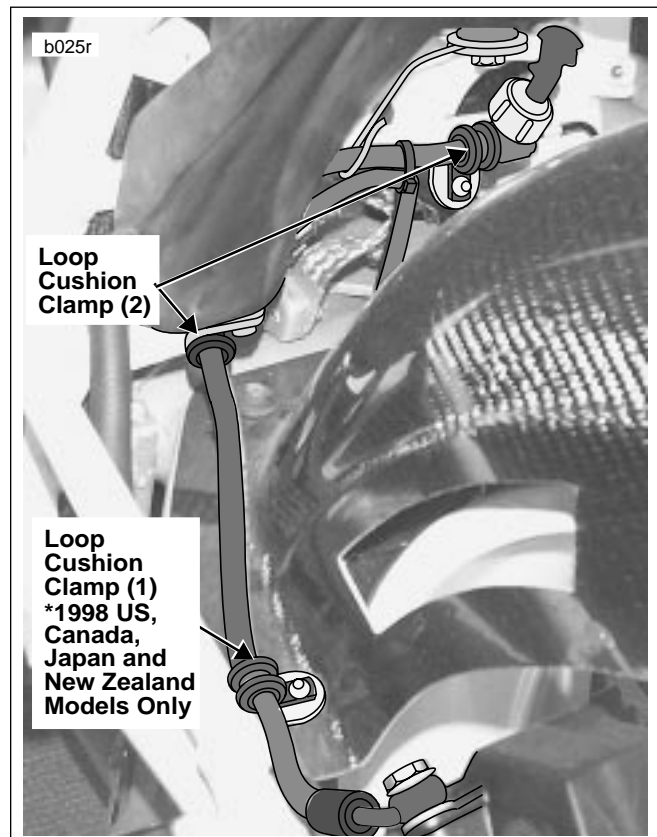

Figure 8. 1996-98 S1/S1W Brake Line Routing
23. After rear inner fender is installed, check for proper brake line routing and clamp attachment points. Brake line routing and attachment points should be as shown in Figures 8 and 9.